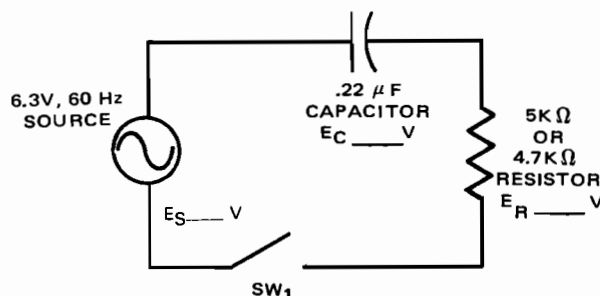

Fig. 10-5-1
1. Construct capacitive reactance test circuit shown in Fig. 10-5-1.
2. Turn on circuit switch and prepare VOM to measure ac across R and C . Record these measured values on Fig. 10-5-1. Measure 6.3 V, 60 Hz source voltage and record its actual value as E_s in circuit diagram.